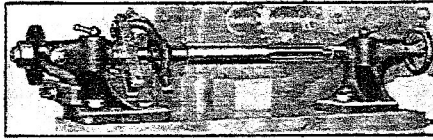

Fig. 21
2. **SIDE MILLING**: In side milling, the sides of the cutter cut as well as the face. Therefore, the cutter is similar in design to the plain milling cutter except for the additional teeth on the side. This cutter is used for such operations as slotting, grooving, cutting keyways, etc. (See Fig. 21.)